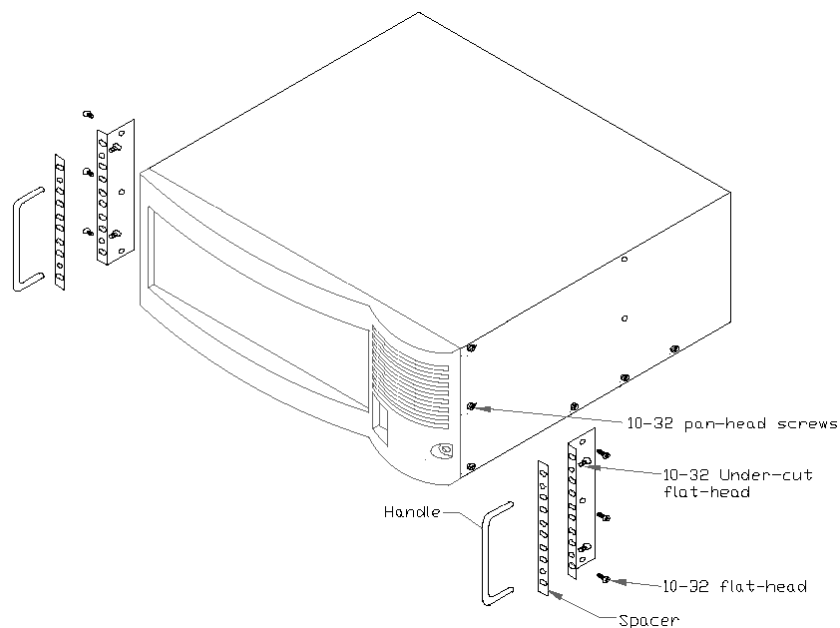

Figure 3. Standard Rack-Mount Bracket Installation
2. Remove the front three vertically aligned pan-head machine screws from each side of the VSR-2 chassis as illustrated in Figure 3.